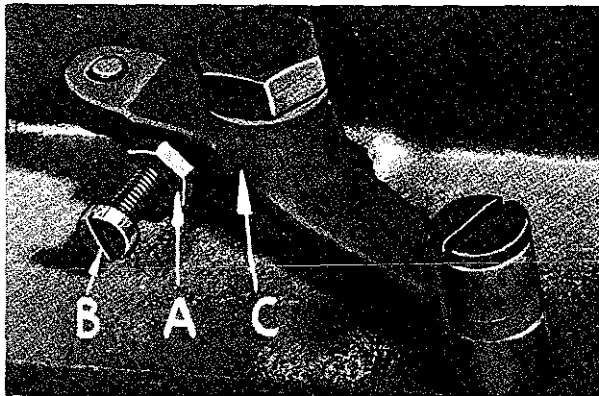
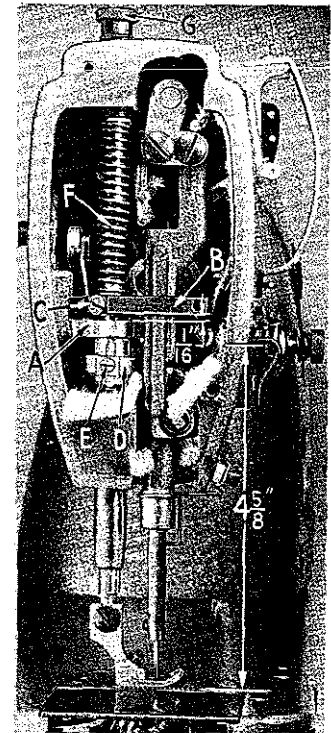
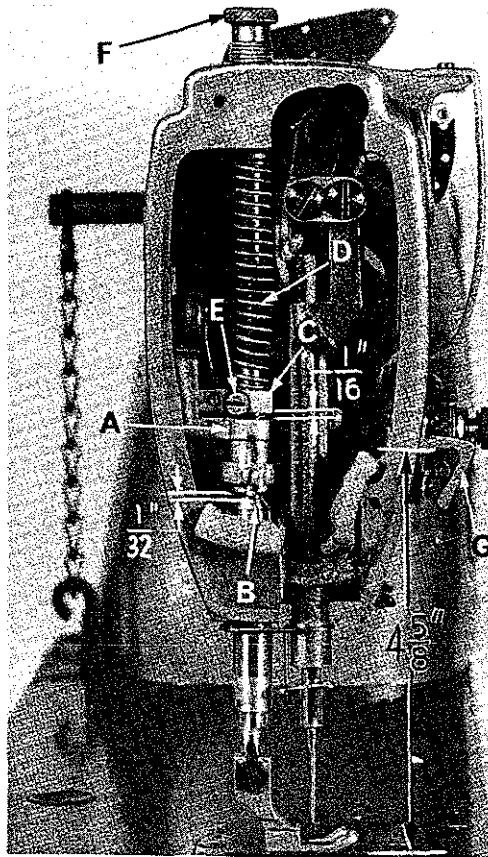

Fig. 15
Fig. 16
Fig. 16A
The presser spring should exert only enough pressure to make the work feed uniformly. To increase the pressure on the presser foot, turn presser spring regulator (G, Fig. 16) in clockwise direction. Turning the regulator counterclockwise decreases the pressure.
The presser bar connection (A, Fig. 16) should be set so that it is about 1/16 inch below the presser bar guide (B). This is accomplished by tipping the machine back against the rest pin, loosening the lock nut (A, Fig. 15), and relocating the stop screw (B) on the lifter lever bell crank (C). By turning the stop screw to the right or left, the proper setting of the presser bar connection is accomplished. Tighten the lock nut (A) to lock the stop screw in place.
The presser bar connection (A, Fig. 16A) should be set so that it is approximately  $1/32$  inch above the lower presser bar bushing (B, Fig. 16A). This is accomplished by tipping the machine back against the rest pin, loosening the lock nut (A, Fig. 15) and relocating the stop screw (B) on the lifter lever bell crank (C). By turning the stop screw to the right or left, the proper setting of the presser bar connection is accomplished. Tighten the lock nut (A) to lock the stop screw in place.
When locating the presser bar guide (B, Fig. 16), the presser foot must rest directly against the throat plate with the feed dog in its lowest position. The guide is set properly when there is a  $4 \frac{5}{8}$  inch space between the underside of the needle thread take-up wire and the top of a thin (.085 inch thick) throat plate (Fig. 16).
When locating the presser bar guide (C, Fig. 16A) the presser foot must rest directly against the throat plate with the feed dog in its lowest position. The guide is set properly when there is a  $1/16$  inch space between the guide (C) and the presser bar connection (A, Fig. 16A).
To obtain this setting, remove the pressure from the presser spring (D, Fig. 16A) and loosen set screw (E). Tap on presser foot to insure its being down on the throat plate. Set the guide to the  $1/16$  inch dimension, center the foot by turning it so that the needle enters the middle of its slot and retighten screw (E) in the guide. Now apply pressure by turning the presser spring regulator (F) clockwise.
Set the needle thread pull-up bracket (G) so that the underside of the wire is  $4 \frac{5}{8}$  inches above the throat plate (Fig. 16A).
The tension release should be set so that it will not release when sewing over seams or when the presser foot is raised for back tacking. The adjustment of the tension release cam (D, Fig. 16) and the in and out position of the tension assembly are required for proper operation.
The tension release cam (D, Fig. 16) should now be positioned by loosening set screw (E, Fig. 16) and then raising or lowering the cam to suit the sewing conditions. The average release point is between 1/4 and 5/16 inch of presser foot lift above the throat plate. Tighten tension release cam set screw securely.